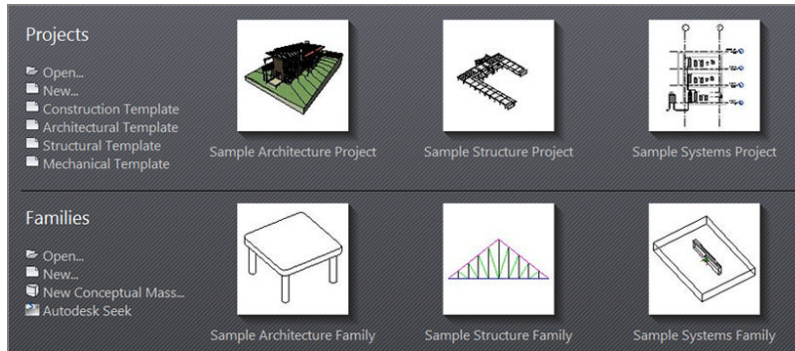

FIGURE 1.2: The Recent Files window lists any recent projects or families on which you've worked.
2. After you start Revit, you'll see the Recent Files window, as shown in Figure 1.2. The top row lists any projects on which you've been working; the bottom row lists any families with which you've been working. The column to the right allows you to view some tutorial videos. If you have time, I recommend investigating this feature.